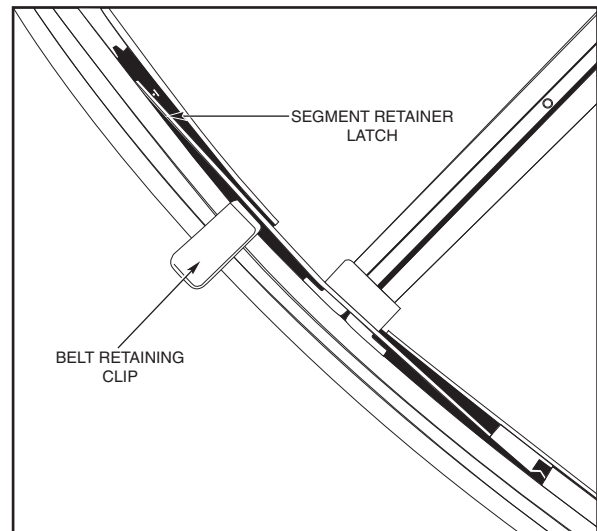

Fig. 199 — Detail of Belt Retaining Clip and Segment Retained Latch
7. At pulley location, insert the right angle belt retaining clip near spoke and between segment retainer latch and wheel rim as shown in Fig. 199.